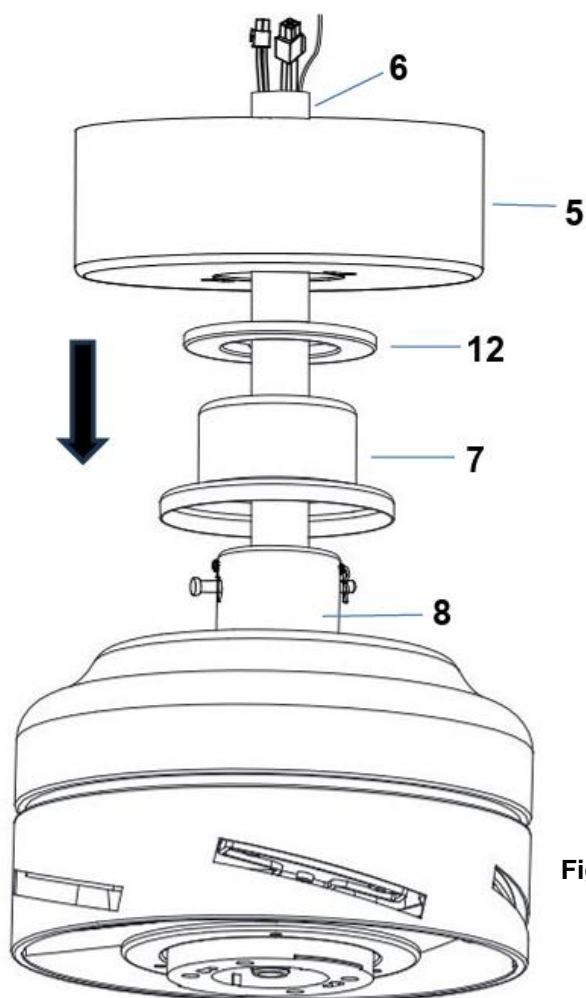

Fig. 4.5
6. Insert the decorative cover (7) onto the down rod (6) to cover the down rod coupling housing (8). (Fig. 4.5)
7. Insert the canopy cover (12) & canopy (5) over the down rod (6) and install the ball joint (2) and dowel pin (3) back onto the down rod (6) and secure by tightening the set screws (4). (Fig. 4.5 & Fig. 4.6)